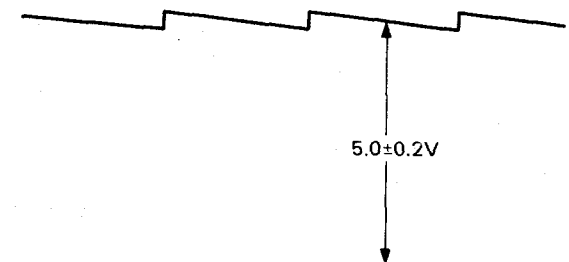

Figure 72.
3. Adjust R717 (drum lock) so that voltage of TP709 becomes $5.0 \pm 0.2V$ as shown in Fig. 72.